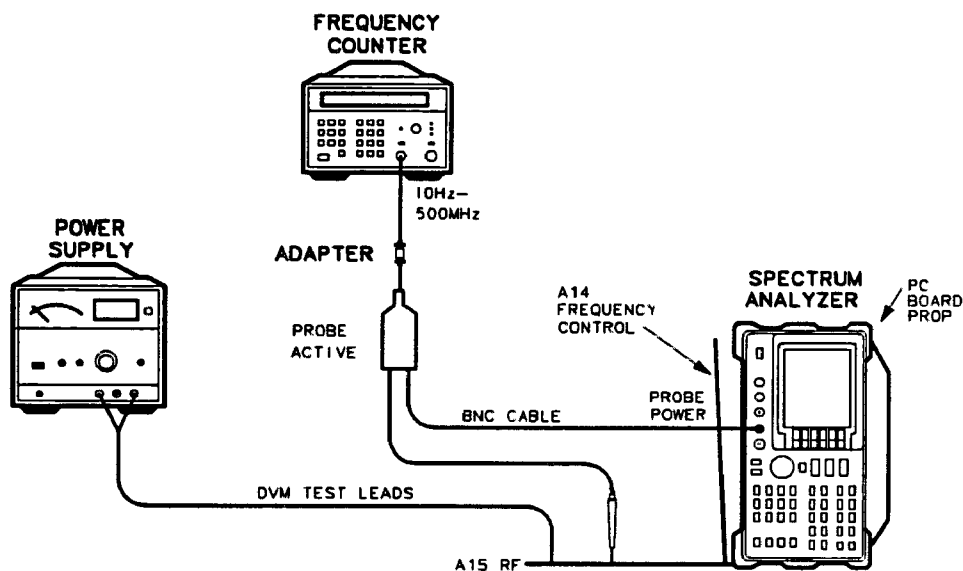

Figure 2-7. Coarse-Tune Adjustment Setup
23. Set the HP 8562A/B **(LINE)** switch OFF and remove the top shield over the sampling oscillator. Connect the equipment as shown in Figure 2-7.